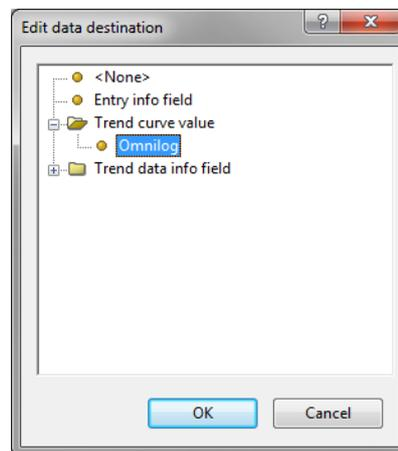

Figure 6: The *Edit data destination* dialog box.
8. Press *<Edit destination>*, select "Omnilog" under *Trend curve value* as destination and click *<OK>* (see Figure 6).